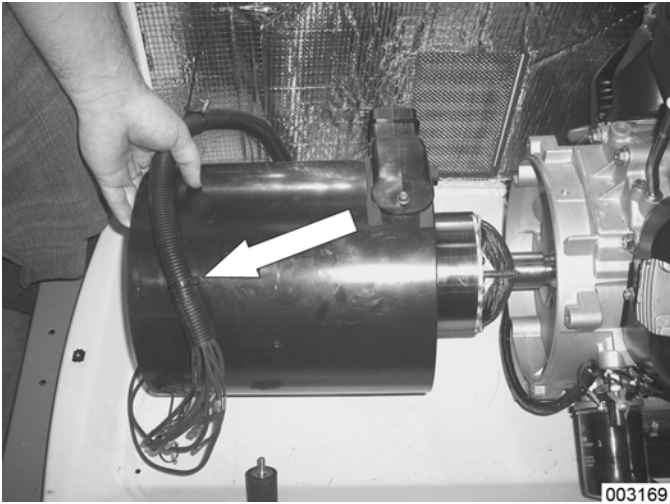

Figure 5-67.
28. See Figure 5-67. Remove stator.